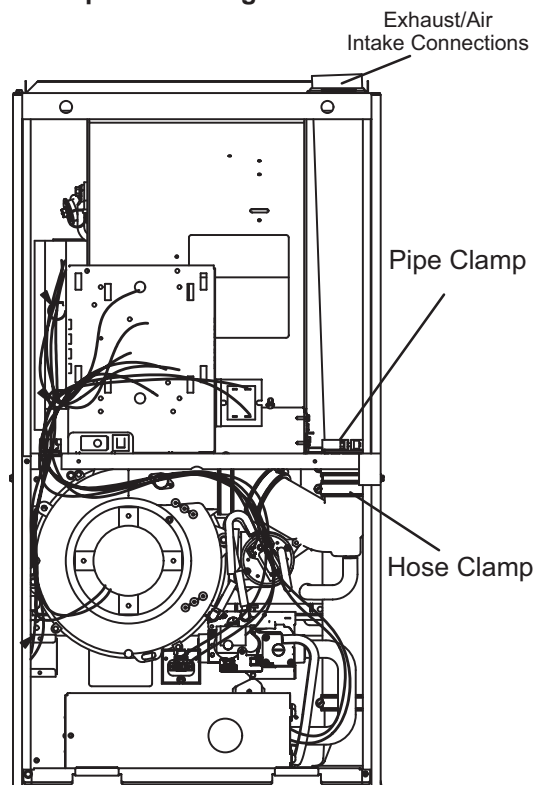
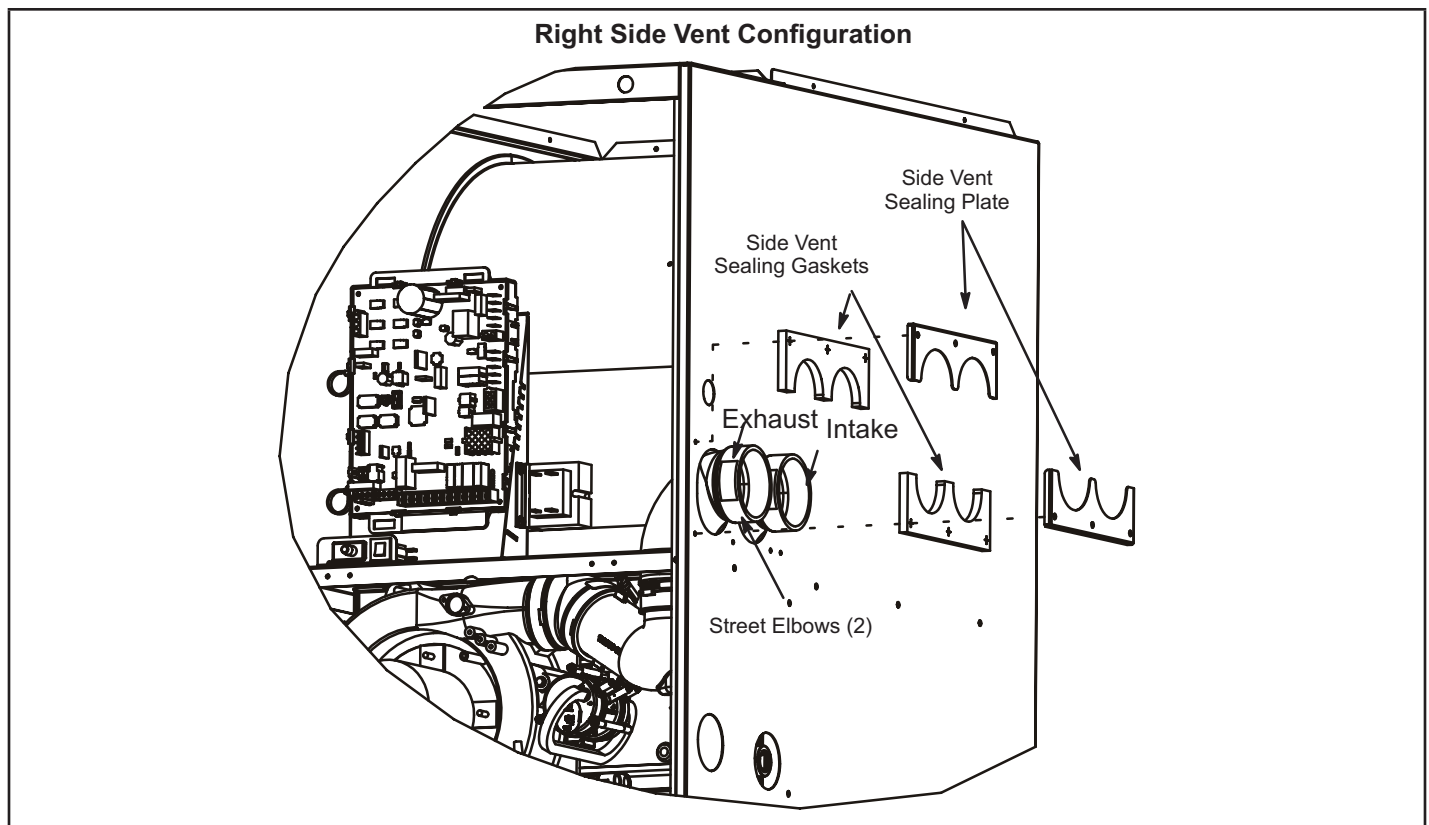

FIGURE 13
FIGURE 15
The SLP98DF is shipped with vent exhaust / air intake connection at the top cap. See figure 13. Using parts provided, the furnace may be field modified to have these connections on the right side of the furnace cabinet. See figure 15 and follow the steps below. For left side venting order kit 87W73.
- 2 - Loosen hose clamps which attach rubber fittings to the white PVC pipes inside the vestibule area. See figure 13.
- 3 - Loosen the clamp which secures the pipes at the blower deck. See figure 13.
- 11 - Peel protective backing from side vent sealing gaskets (2) and apply to side vent sealing plates (2) as shown in figure 15.
- 12 - Install the side vent sealing plates and gaskets on the exterior of the cabinet as shown in figure 15. Secure with six mounting screws (four reused and two provided from bag assembly). Holes are pre-punched in the parts and cabinet, no drilling is required.